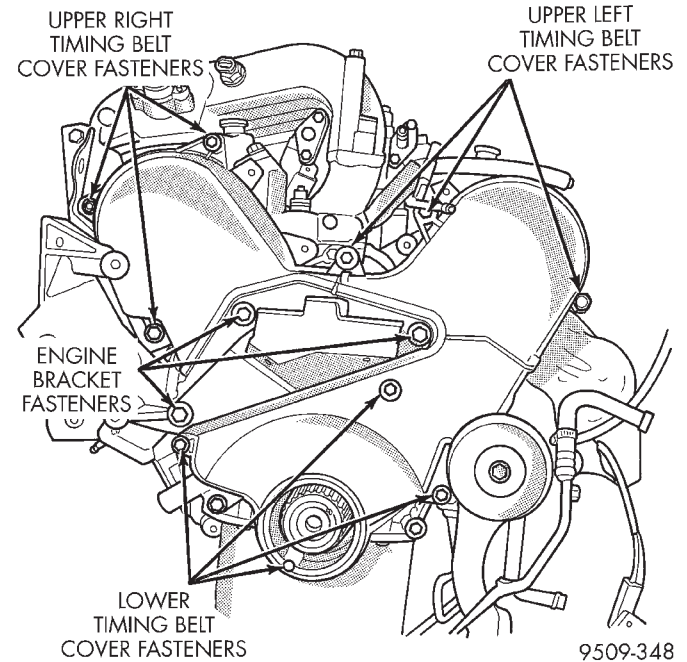

Fig. 51 Timing Belt Covers
(5) Remove the engine mount bracket (Fig. 51).
(6) Remove the timing belt covers (Fig. 51). Remove covers in this order:
- (10) Install front half of timing cover and engine mount bracket (Fig. 51).
- (11) Install right engine mount. Refer to procedure outlined in this section.
- (12) Remove jack from under engine.
- (13) Install crankshaft damper and crankshaft damper bolt and tighten to 182 N·m (134 ft. lbs.). Refer to procedure outline in this section.
- (14) Install accessory drive belts. Refer to the Accessory Drive section located in Group 7 Cooling System, for the procedure.
- (15) Raise vehicle on hoist and install right inner splash shield.